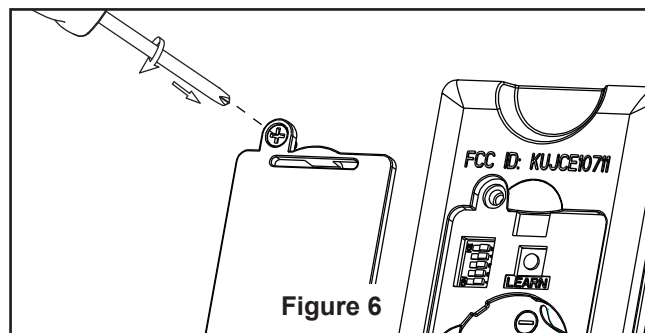

Figure 6
- ☐ **6.** Secure the steel cap to light kit wire cover by twisting in a clockwise direction. Do not over-tighten. (Figure 6)
- ☐ 6. Replace battery cover on the remote control and secure with the previously removed screw. (Figure 6)